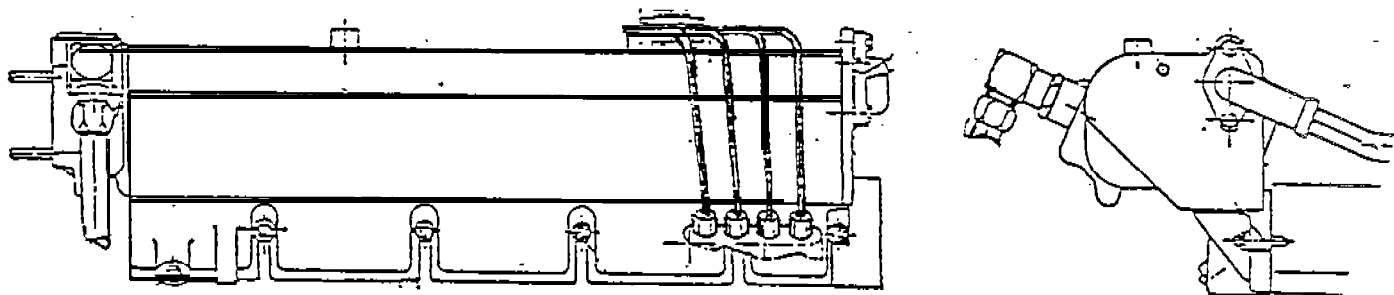

Figure 7. Water-Cooled Exhaust Manifold
- (WEEKLY) 11. ( ) The fasteners securing the exhaust manifold to the engine are in place and tight. The water-cooled exhaust manifold is illustrated in Figure 7.